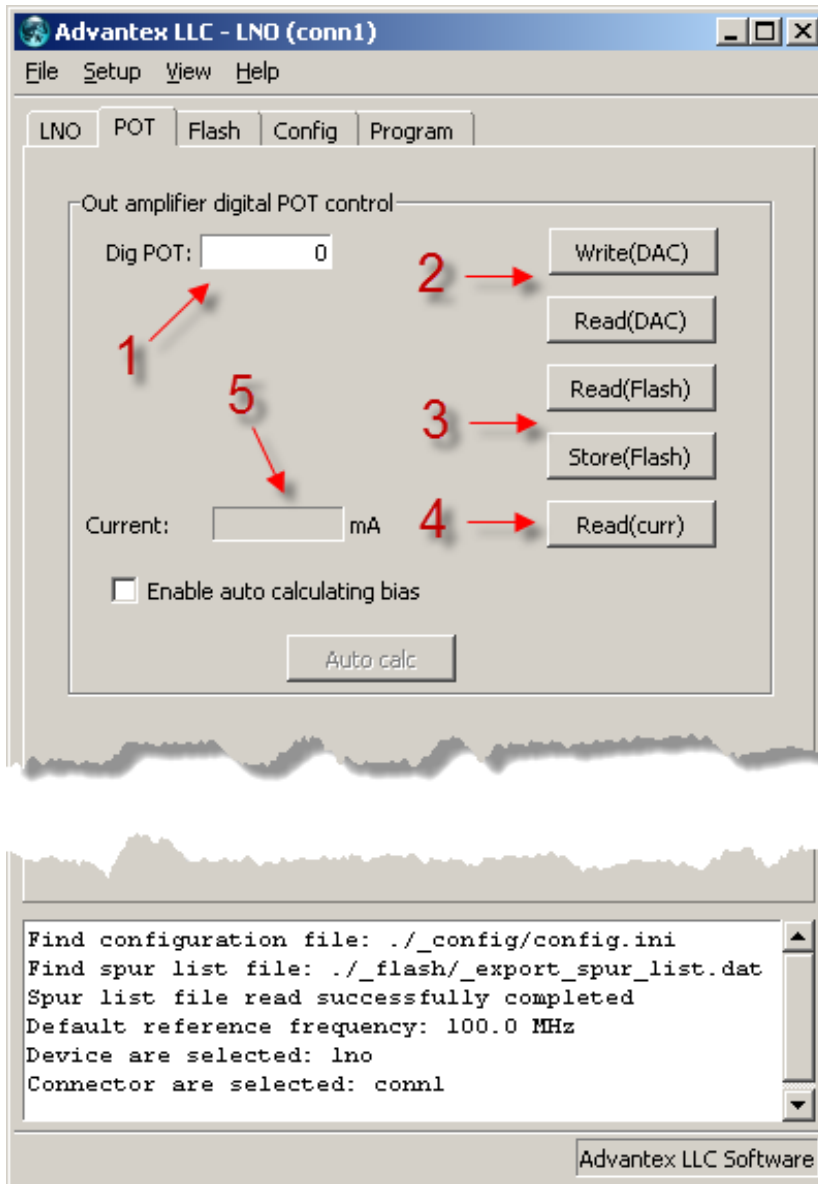

Figure 10: Drain current setting of output amplifier
11. The POT tab described below (fig. 10) is used only in the factory adjustment of the drain current of output amplifier. After adjustment the setting is stored in FLASH memory of digital potentiometer and is applied automatically after power on of the LNO module. To adjust drain current follow these steps.